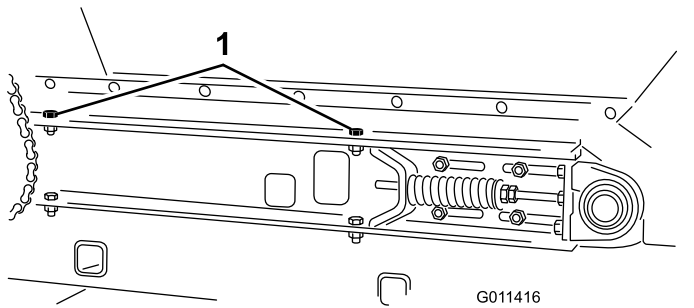

Figure 32
- 4. Remove 2 cap screws, washers, and nuts on each side of the machine, securing the hopper to the slider bed (Figure 32).